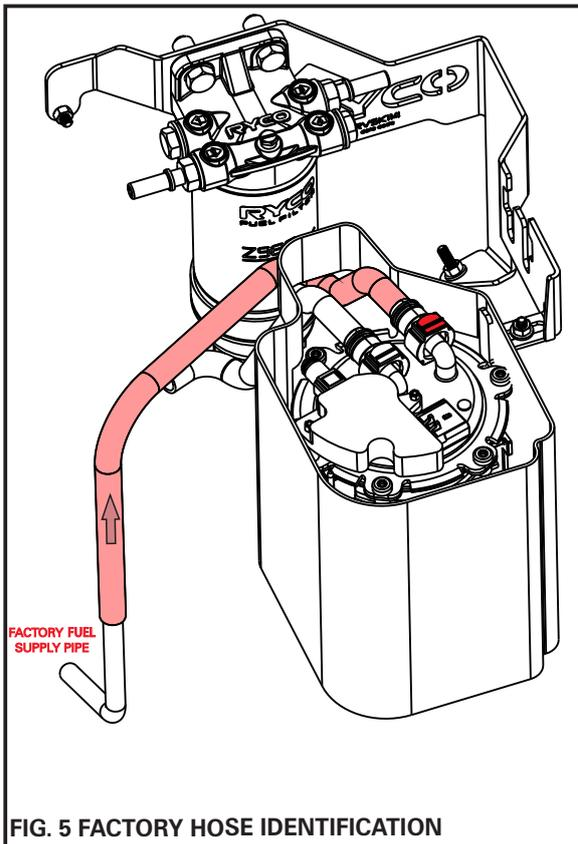

FIG. 5 FACTORY HOSE IDENTIFICATION
1. Mount Z980K16 assembly onto the metal bracket using the two (2) black M10 bolts supplied with the Z980K16.
2. Locate the factory fuel supply line by starting at the factory fuel filter. Locate the inlet straight red connector (see Fig. 5), pull up the locking tab, then press the release button and pull back to remove. Have a rag ready to capture any diesel that may spill out of the fuel line and the fuel filter.